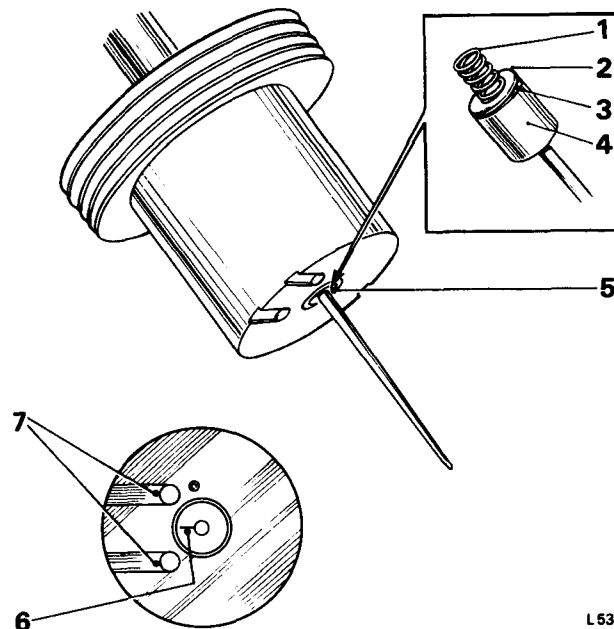

FIG.2 CORRECT POSITION OF THE SPRING LOADED NEEDLE
1. Fit the spring of the spring loaded needle onto the needle collar ensuring that the spring locates in the groove (see Fig. 2).
3. Fit the needle and guide into the piston. The lower face of the guide must be flush with the face of the piston (*see Fig. 2*), and the mark on the guide must be adjacent to the point midway between the two cut-outs in the piston.